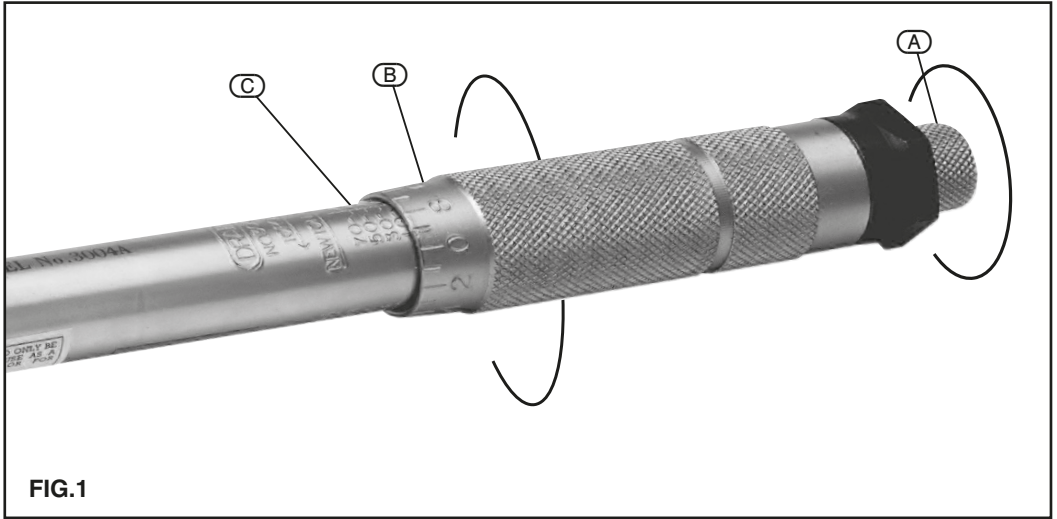

FIG.1
8.1 OPERATION INSTRUCTIONS - FIG. 1
- 1. Unlock handle (Fig.1) (Page 10).
- 4. Lock handle (Fig.1) (Page 10).